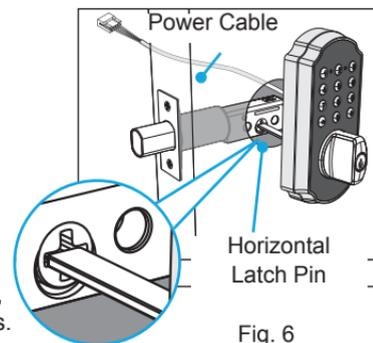

Fig. 6
- Gently feed the power cable through diameter hole carefully over the latch. (Fig. 6)
- Adjust the latch pin to HORIZONTAL position, then insert it into the center hole of the latch.(Fig. 6)